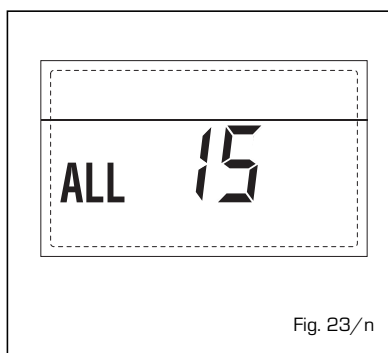

Fig. 23/n
- SAFETY THERMOSTAT INTERVENTION FIRST MIXED ZONE "ALL 20" (fig. 23/p)